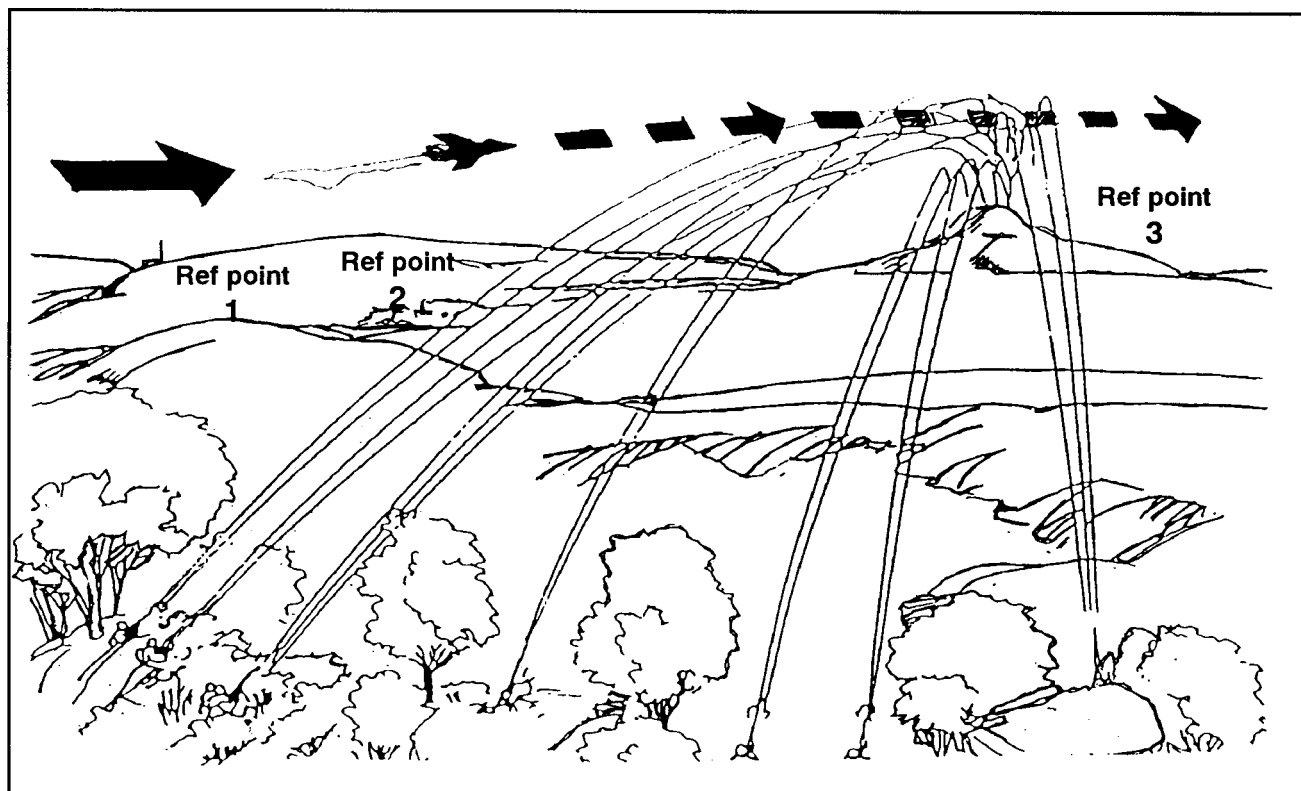

Figure C-2. Reference-point technique.
(2) The next technique is the **reference-point technique** (Figure C-2). The unit leader designates terrain features as reference points. Upon spotting enemy aircraft, the leader commands, ENEMY AIR, REFERENCE POINT 1. At this time, the M249 automatic rifleman points his weapon at reference point 1, elevates it about 45 degrees above the ground, and fires on command. Once he sights the target, he can make minor adjustments to align his fire on the target.